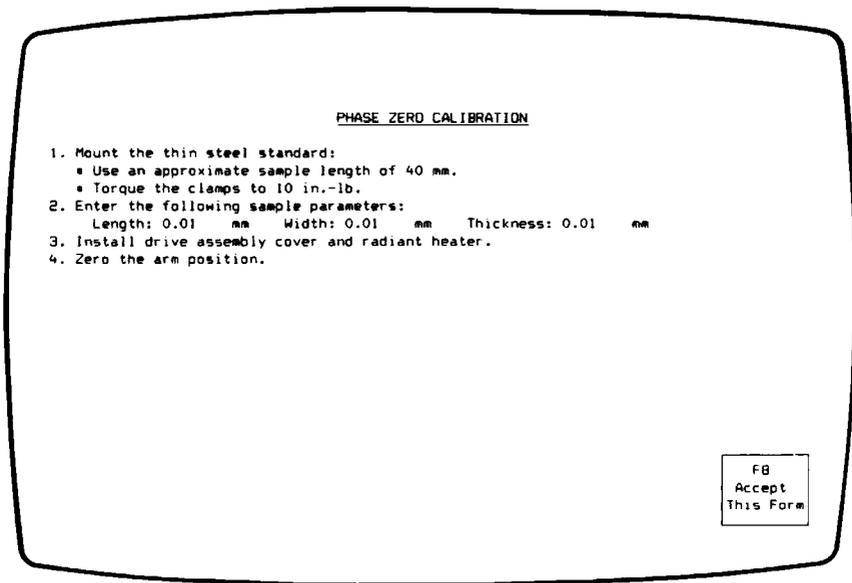

Figure 4.9
3. Press F1 (Start Calibrate) when you have the arms zeroed. The program begins step 1 of the phase zero calibration, which takes approximately 20 minutes. If you wish to stop the procedure, press F1 (Cancel Phase Zero), and you will be returned to the screen in Figure 4.9.
5. Press F1 (Start Calibrate) when you have the arms zeroed. The program begins step 2 of the phase zero procedure, which takes approximately fifteen minutes. If you wish to stop the procedure, press F1 (Cancel Phase Zero), and you will be returned to the Phase Zero Step 1 screen (see Figure 4.9).